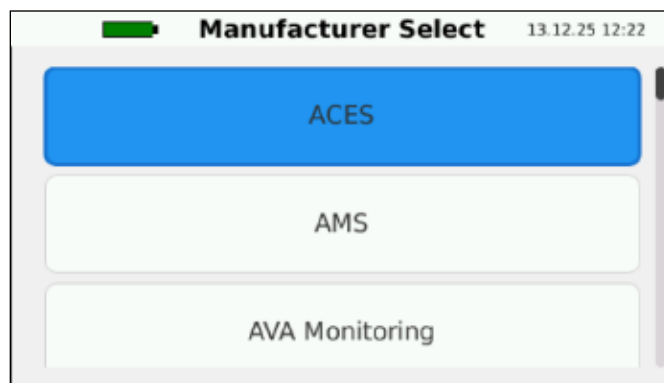

Figure 16
2. Select the manufacturer (*Figure 16*).